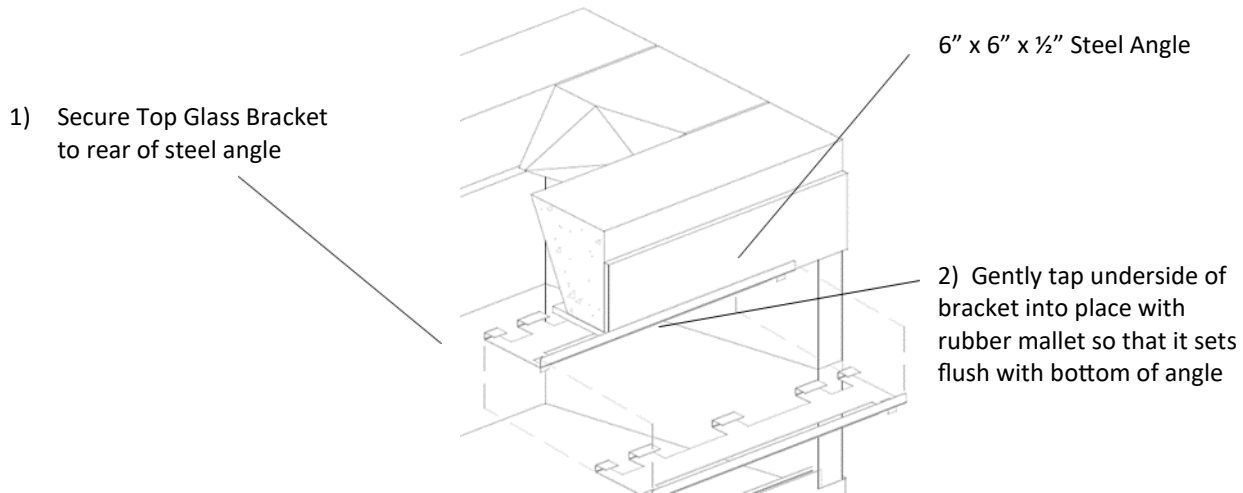

FIGURE 17
- 9) For the 72", 96" and 120" models, once the dampers beams are set into place, secure the Top Glass Bracket A (E-TG2) in place with the bottom of the angle steel as shown (**Figure 17**). Each model will require a different number of these to be spaced equally across the firebox's opening. Tap them into place utilizing a rubber mallet to prevent marring the finish.